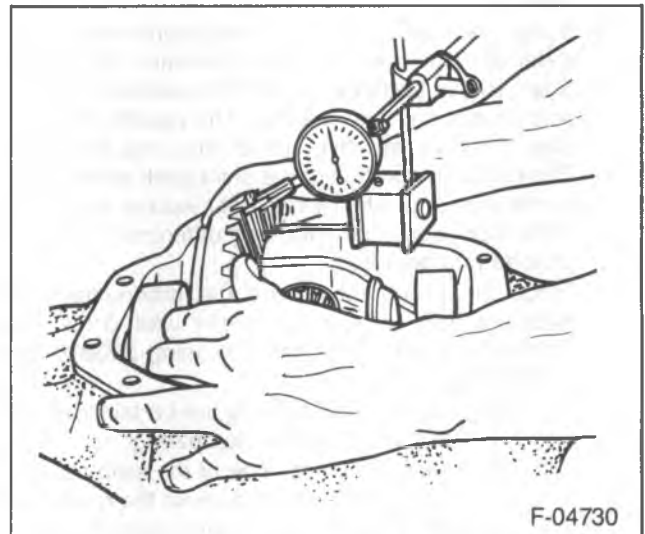

Figure 81—Measuring Backlash
1. Mount a dial indicator with a magnetic base to the axle housing as shown in figure 81.